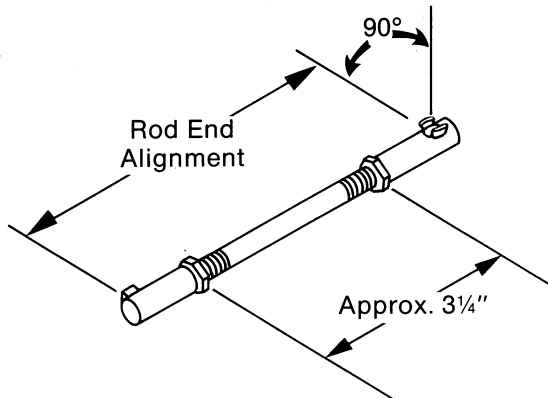

FIG. 28
- C. Check adjustment or readjust rod ends on shift rod to dimension shown in (Fig. 28).
NOTE: When readjusting rod ends, proper alignment of rod ends must be maintained to install shift rod back into place. See (Fig. 28)